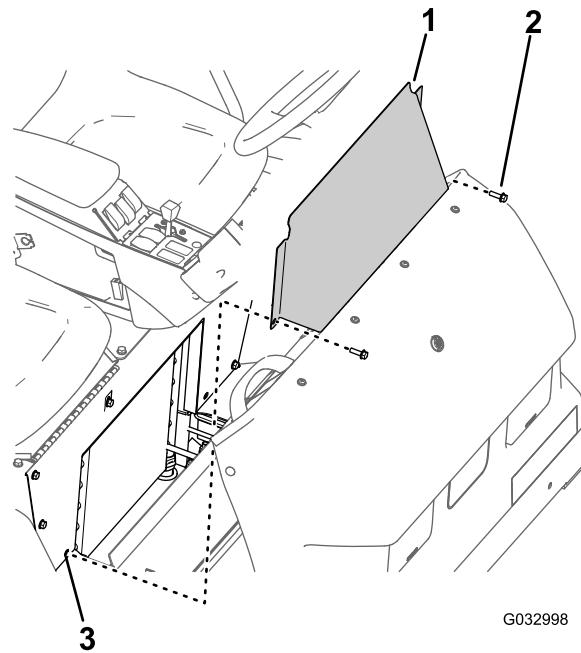

Figure 69
1. Remove the 2 flanged-head bolts that secure the seat-base-access panel to the seat base (Figure 69).
2. Remove the seat-base-access panel from the machine (Figure 69).
1. Align the holes in the seat-base-access panel with the holes in the seat base (Figure 69).
2. Assemble the seat-base-access panel to the seat base with the 2 flanged-head bolts (Figure 69) that you removed in step 1 of Removing the Seat-Base-Access Panel \(page 54\).